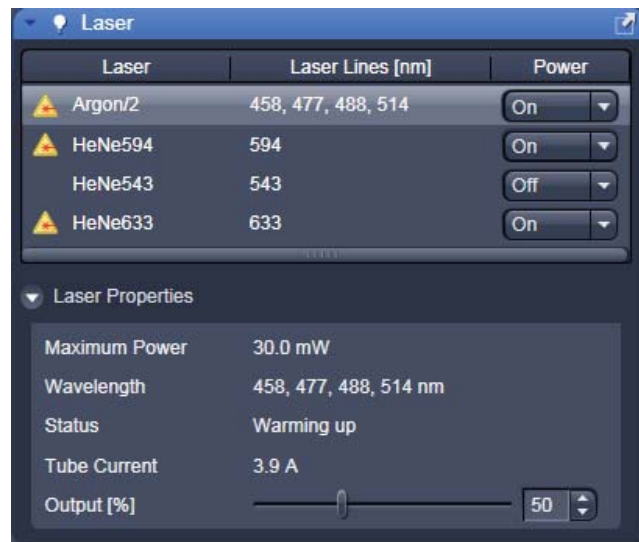

Fig. 10 Laser Control tool
- All available lasers can be operated within this tool (Fig. 10).